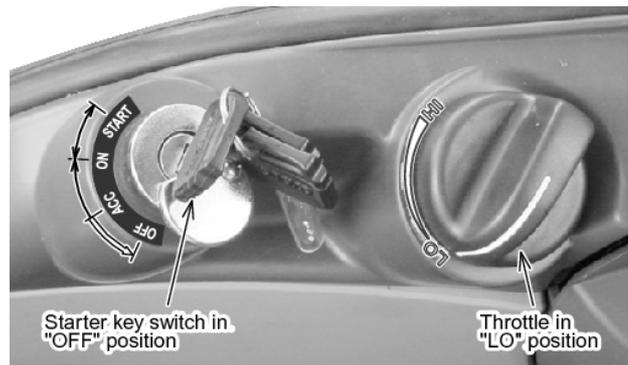

Fig. 8-2
3. Turn key switch "OFF" and remove key. See Fig. 8-2.